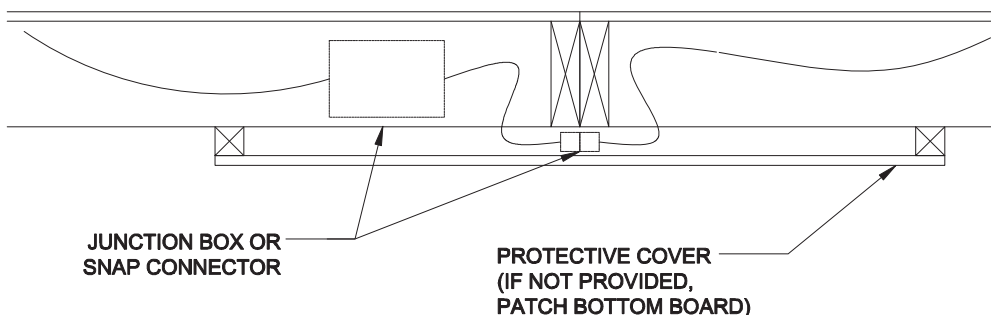

Figure 40. Floor electrical crossover wires with bumped-out access panel
2. **Route wires.** Pass the wires through predrilled holes or notches in the rim joist or if there is a single bumped-out access panel as in **Figure 40**, then connect under the rim joists.
2. **Connect wires.** If wire is coiled inside one junction box, insert it into flexible conduit and pass it under the rim joists to the opposing box and make the connection as described above. If no coiled wire is provided, install conduit with wire making connections in both boxes (**Figure 40**).